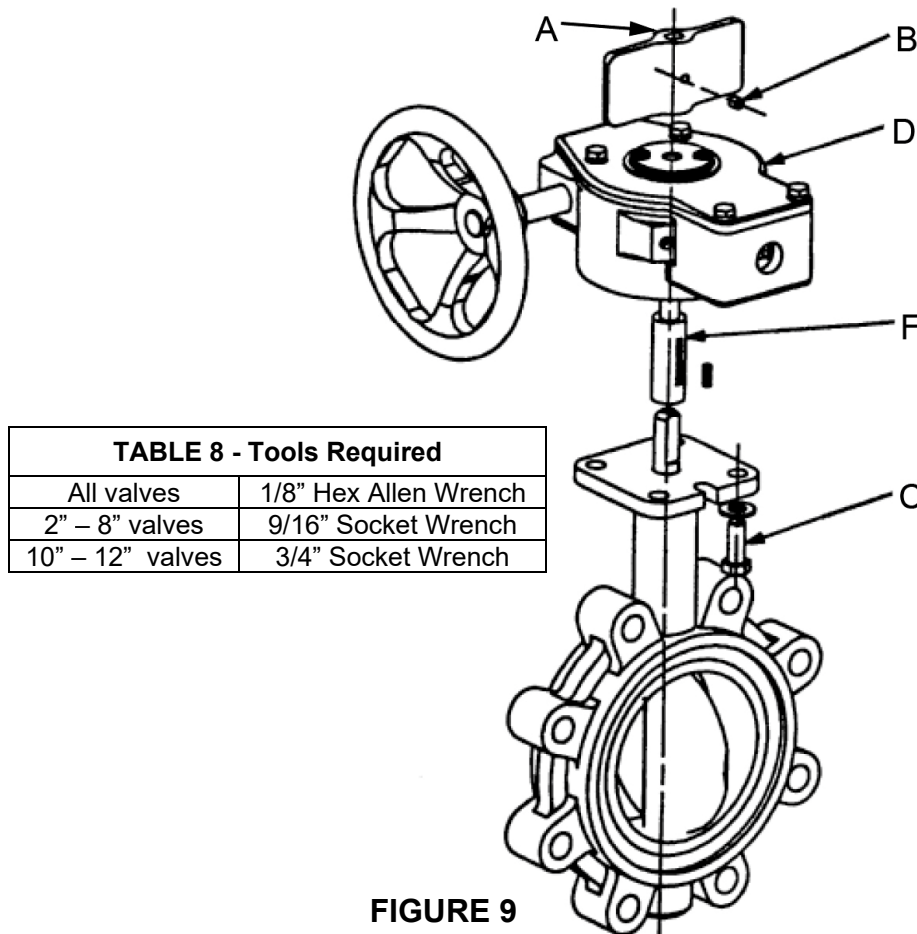

FIGURE 9
1. Loosen the set screw (B) that secures the flag (A) to the stem. Remove the flag. See Fig. 9.
2. Remove the four (4) hex head cap screws (C) that fasten the gear operator (D) to the valve.
3. Lift the gear operator straight up from the valve. In most cases the adapter bushing (F) will stay in the segment quadrant gear because the broken key causes interference between the gear and adapter bushing.
6. Place the new key in keyway of adapter bushing (F).
8. Secure gear operator with four (4) hex head screws (securely tighten), replace flag on stem and then tighten set screw on flag.